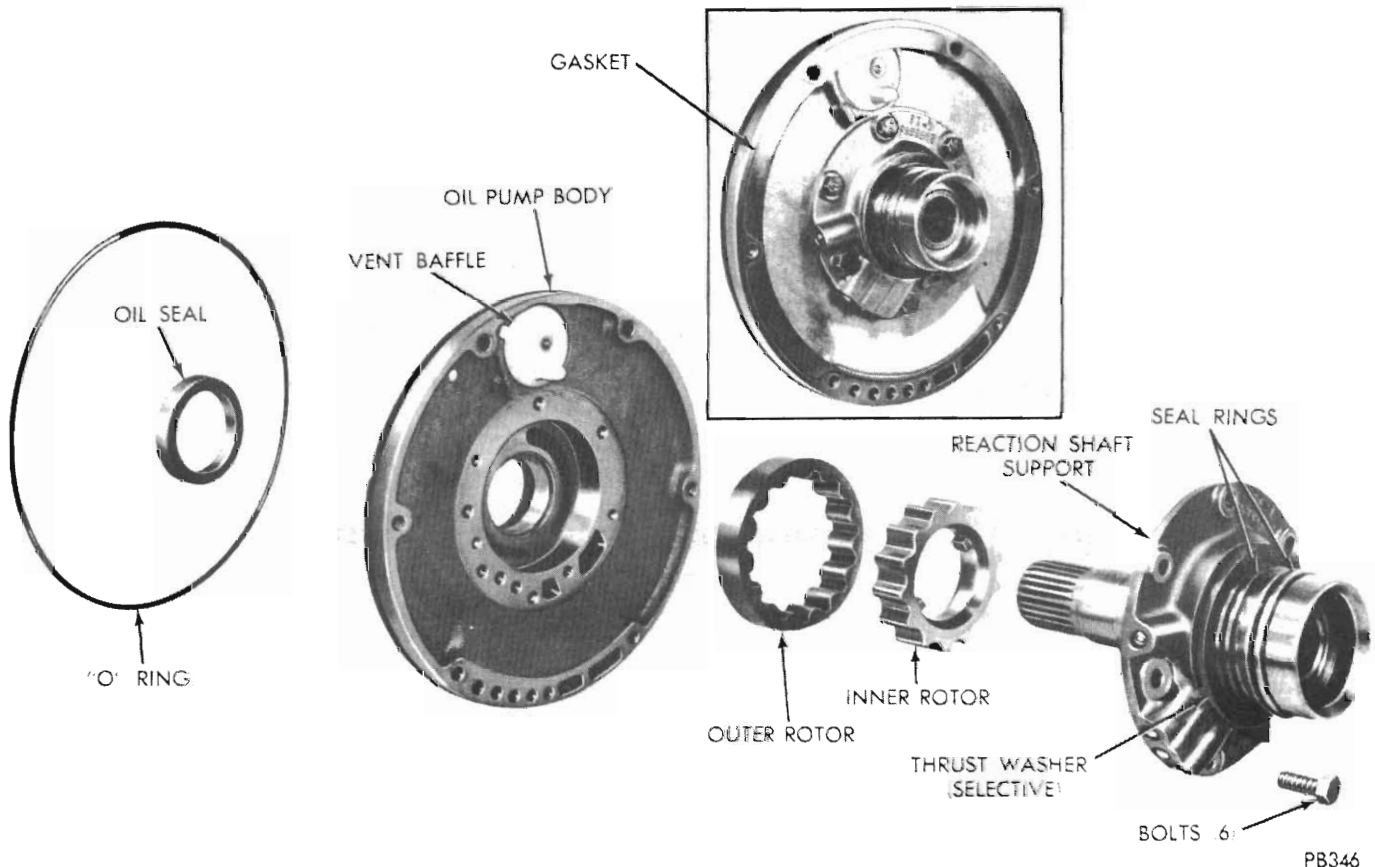

Fig. 66 - Oil pump and reaction shaft support (A-727)
Figure 66 shows the oil pump and reaction shaft support disassembled.
Inspect interlocking seal rings (Fig. 66) on reaction shaft support for wear or broken locks, make
(1) Assemble pump rotors and "O" ring in the pump housing (Fig. 66).